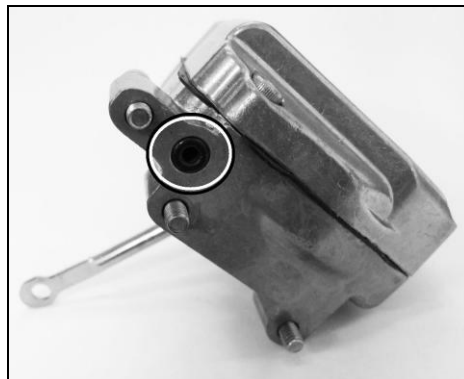

Figure 10
12. The cork gasket on the rear of the diaphragm housing is also critical to secondary operation as it seals the vacuum passage between the housing and the main body. This can be discarded at this time, as your package includes a new seal (Fig. 10).